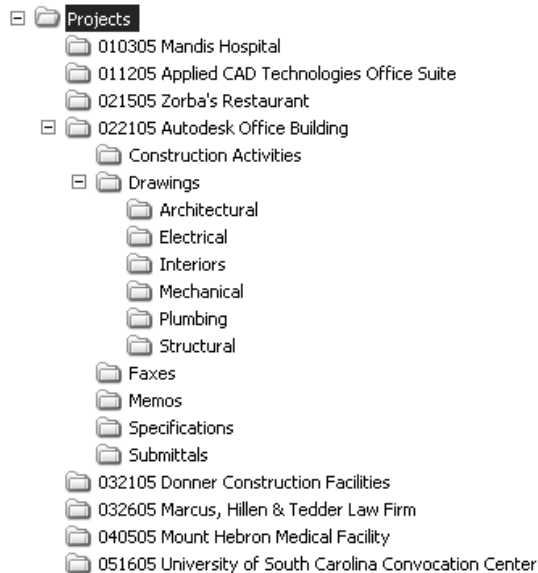

Figure 1. Typical project directory.
- Architect or engineer, depending on circumstances, creates a project directory on the server where drawing files are to be stored (see Figure 1).